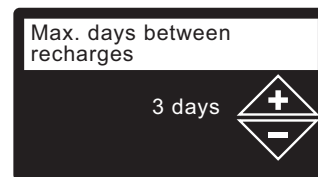

FIG. 26
- MAX. DAYS BETWEEN RECHARGES** Press the UP (▲) or DOWN (▼) buttons to set the number of days between automatic recharges (See Figure 26) The feature can be set from 1 to 99 days.